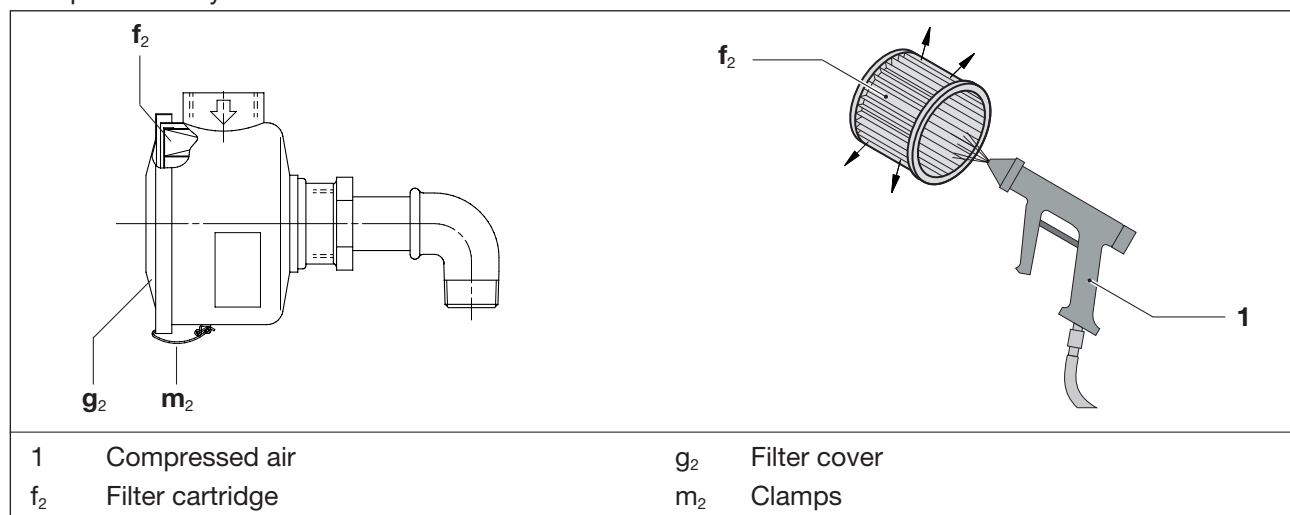

Fig. 8 Intake filter
- Release the brackets (Fig. 8/m2) on the filter cover (Fig. 8/g2).
- Remove the filter cartridge (Fig. 8/f2) from the filter and clean or replace.
- Re-insert the filter cartridge in the filter and fasten the filter cover (Fig. 8/g2) with the brackets (Fig. 8/m2).